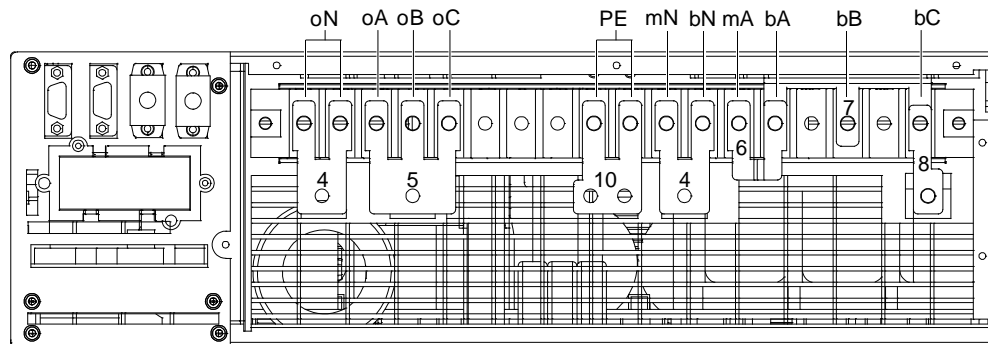

Figure 2-13 Shorted copper bars connection for UPS I/O terminal block
2. As shown in Figure 2-13, you can short two PE terminals of the UPS I/O terminal block using the shorted copper bar 10 with an insulating film, short bA, bB and bC terminals using the shorted copper bar 7, short oA, oB and oC terminals using the shorted copper bar 5, and short mA and bA terminals using the shorted copper bar 6 and then short mN and bN terminals, two oN terminals using two shorted copper bars 4.
3. Connect the shorted copper bar 8 to one end of the shorted copper bar 7 (see Figure 2-13), and connect the live line (input phase A) to the shorted copper bar 8.